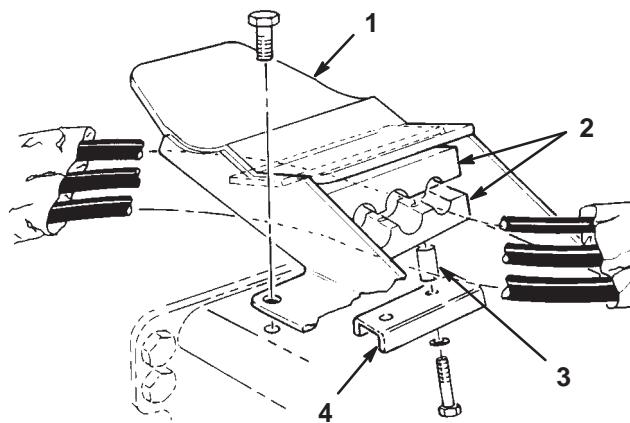

Figure 7
- Loosely secure the hydraulic hoses to the underside of each tipper bracket with hose clamps, spacers, clamp plate, lock washers, and capscrew as shown in Figure 7.
6. Tighten tipper bracket clamps on #4 and #5 cutting units (Fig. 7).